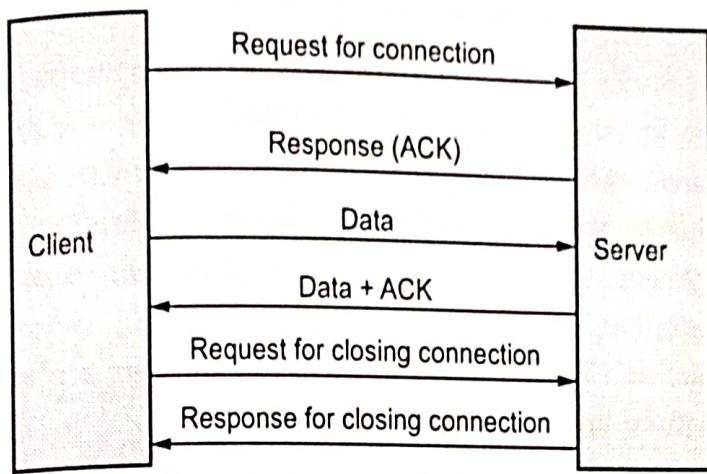

Fig. 4.2.4 Exclusive pair model
- This communication model is full duplex, bi-directional communication model. It uses persistent connection between client and server. Fig. 4.2.4 shows exclusive pair model.